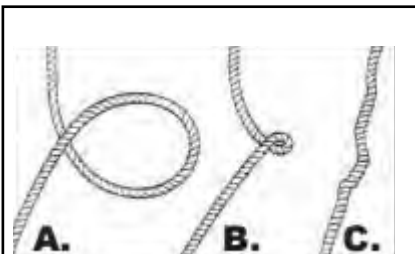

Figure 17
3. Ensure the cable is not kinked, or coiled up as shown in **Figure 17**. Uncoil as necessary or else **damage will occur**.